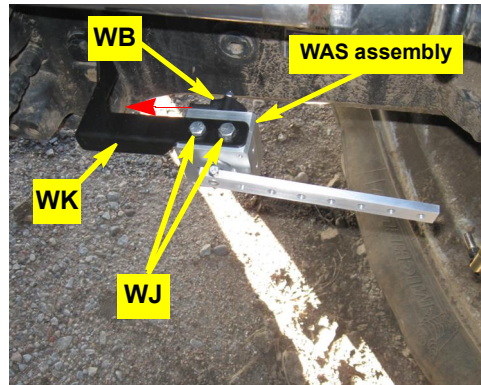

Figure 2c: Installed WAS assembly
c. Using hardware **WJ** attach the WAS assembly to the bottom face of bracket **WK**. Face the wire connector **WB** toward the center of the tractor (Figure 2c).